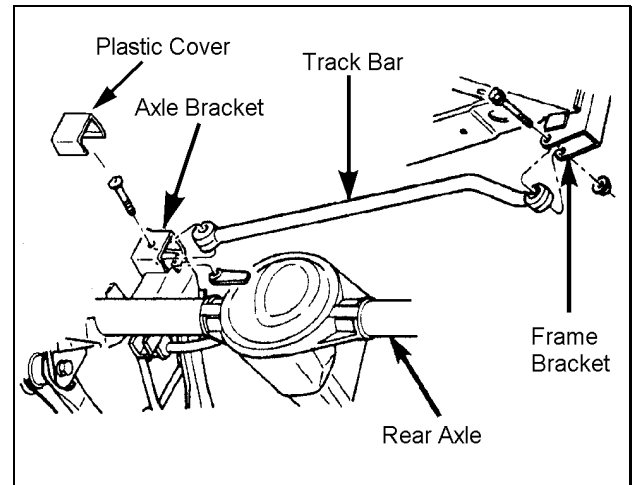

Figure 12
- 2) ☐ Disconnect the track bar from the frame bracket. See figure 12.
- 4) ☐ Separate the track bar from the axle bracket. Remove the track Bar. See Figure 12.